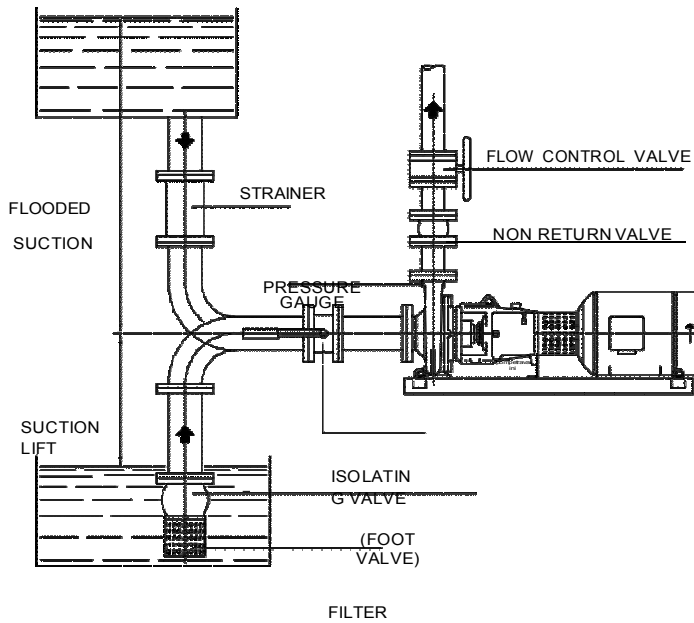

Fig.13
- **Suction piping** (see fig. 13)
- **Discharge piping** (see fig. 13)